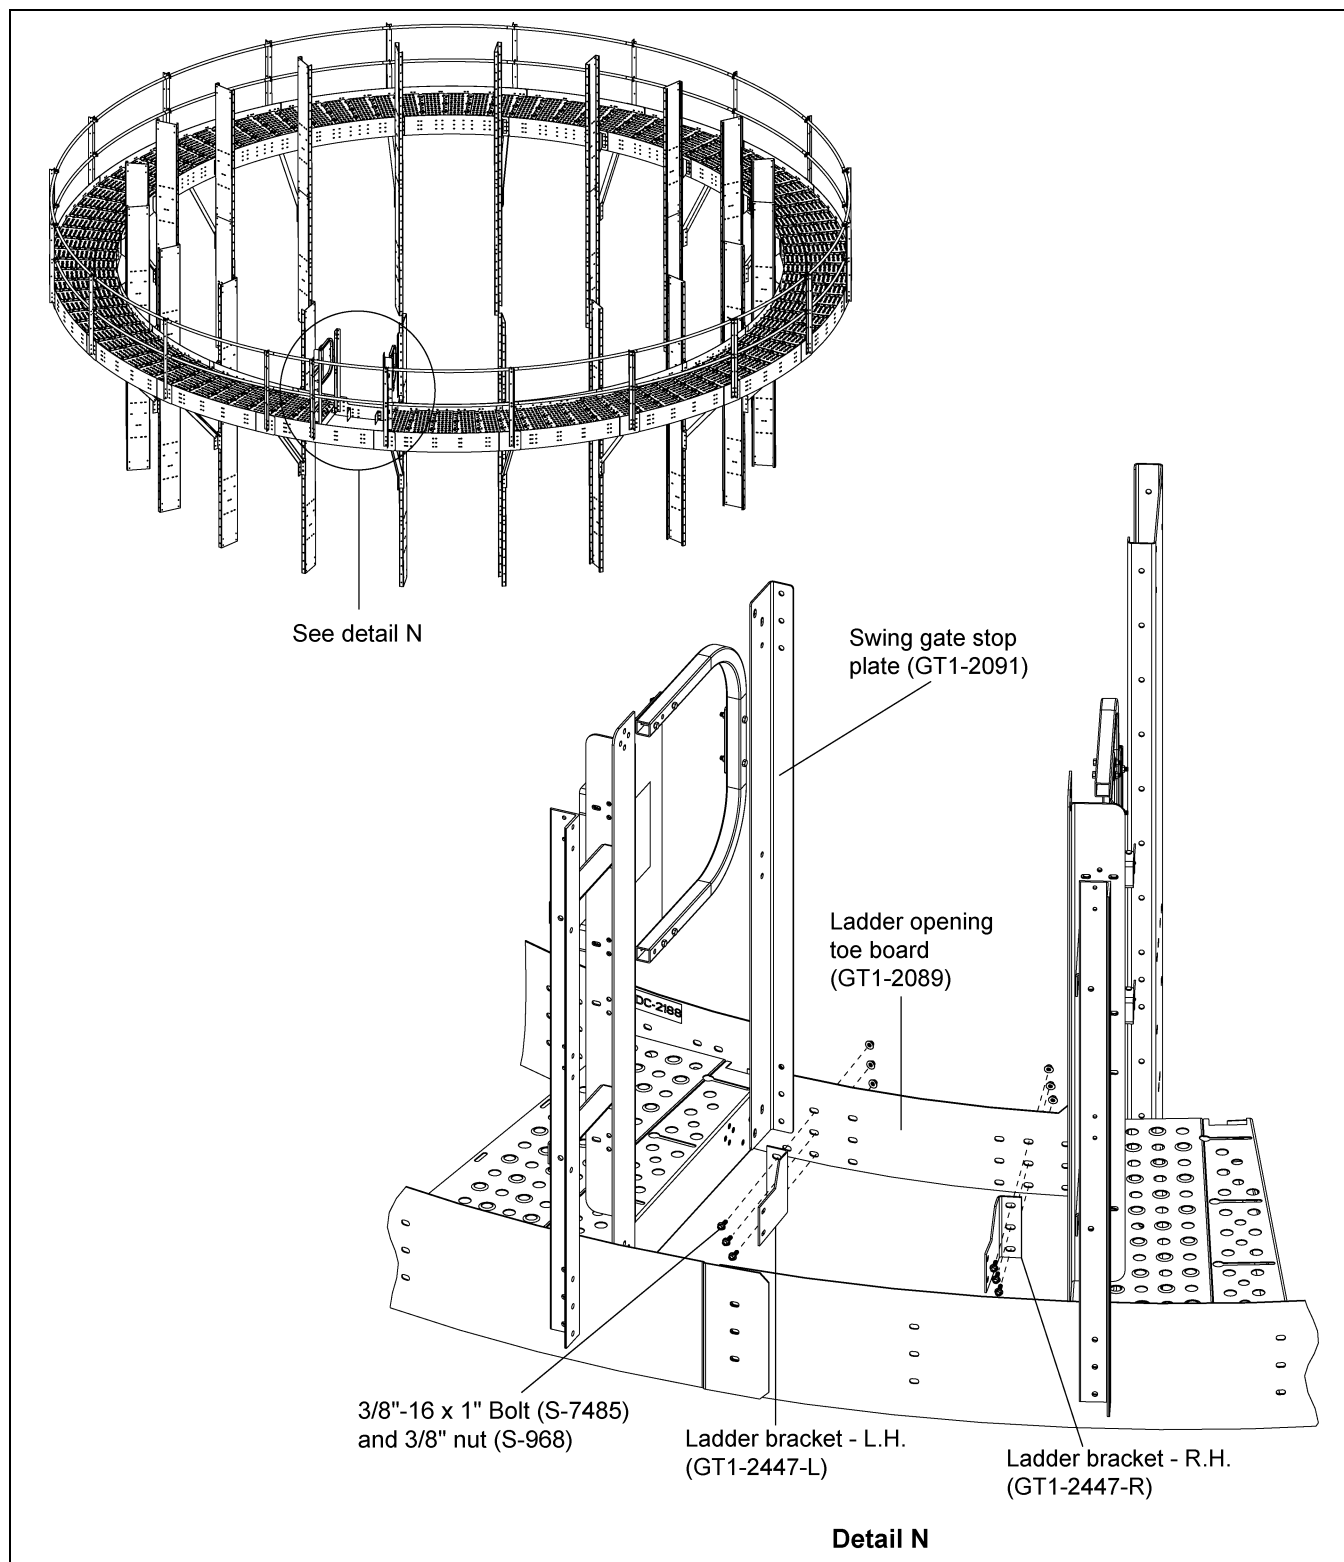

Figure 4Z
1. Install the ladder brackets (GT1-2447-L and GT1-2447-R) to the ladder opening toe board (GT1-2089) using 3/8"-16 x 1" JS grade 8 or grade 8.2 bolts (S-7485) and 3/8"-16 ZN grade 5 nuts (S-968). (See Figure 4Z.)